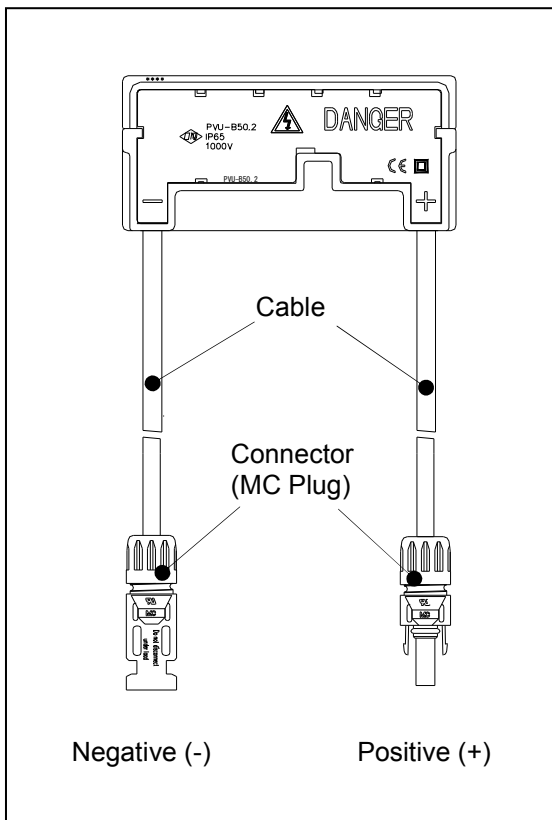

Figure 3: Configuration of Junction box
- One terminal is dedicated to each polarity (with the polarity symbols engraved onto the body of the junction box) (see Figure 3).